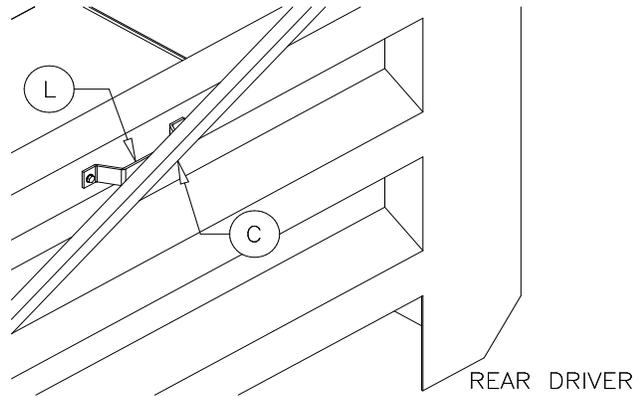

Figure 18
**Procedure:** Close the tarp. Place a pivot arm guide (L) along one of the ribs in the box wall (see Figure 18). Make sure the guide is aligned with the pivot arm (C) (see Figure 22). Mark the position of the pivot arm guide. Using a 9/32" drill bit, drill two holes into the box wall. Secure the pivot arm guide to the box wall with the 5/16"x1" self threading bolts provided.